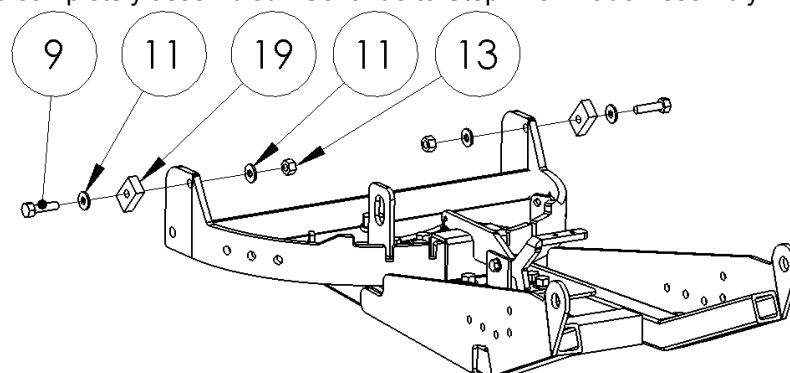

Figure 8
- 6) Install the blade Stop Blocks (#19) using the 3/8" Bolts (#9), Washers (#11), and Nylock Nuts (#13) included in your kit **(Figure 8)**. There are four different positions of the stop block that can be used depending on the angle you want your blade to rest at. Rotate the stop block to achieve the desired position. At this point your Plow Push Tubes are completely assembled. Continue to Step 7 for Blade Assembly.